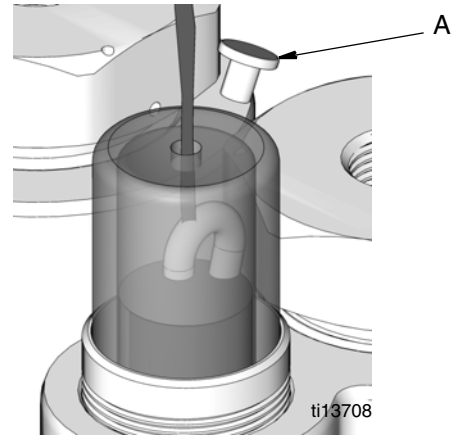

FIG. 5
2. Remove the vent plug (A) on top of the sight glass and fill the housing sight well with oil to 3/8-inch below the discharge of the drip tube (FIG. 5).